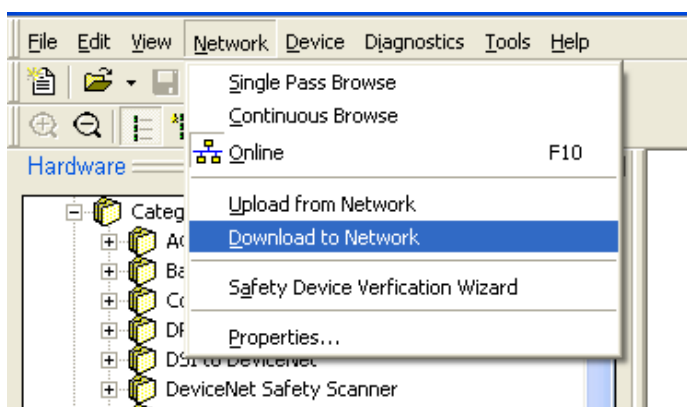

Figure 5-21: Network Download Confirmation Prompt
10. Download the configuration to the scanner card, in order to commission the network. In the prompt that appears (Figure 5-21), click Yes to continue. Note that some scanner cards may require power down for changes to take effect.